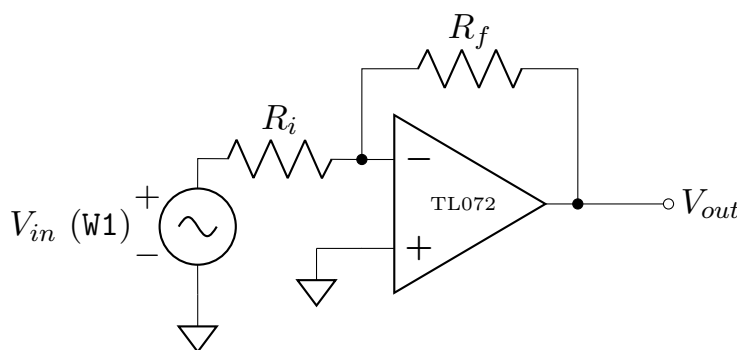

Figure 7: Inverting Amplifier with Fixed Gain
Assemble the following circuit in Figure 7 on your breadboard. Use a $4.7\text{k}\Omega$ resistor for R_f and a $1\text{k}\Omega$ resistor for R_i .
- 3.4 Calculate the gain for the circuit in Figure 7 given an ideal op-amp. Show that, for the resistance values used, the ideal gain is approximate to the measured gain.